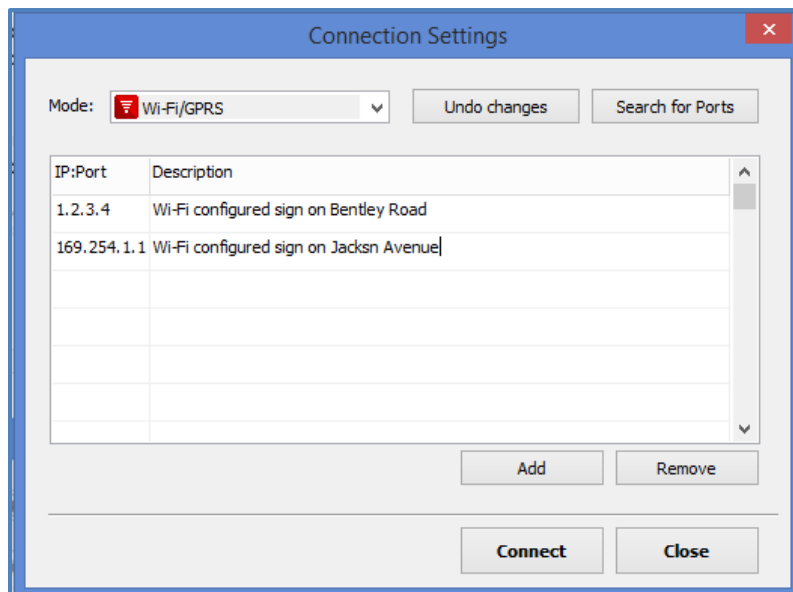

Figure 33 – “Connection Settings” – Wi-Fi/GPRS mode
- 3) Enter the “**pre-programmed IP address**” (for the Wi-Fi card installed inside your radar sign) into the “**IP: Port**” column in the “**Connection Settings**” window. (See Figure 33 – “Connection Settings” – Wi-Fi/GPRS mode).